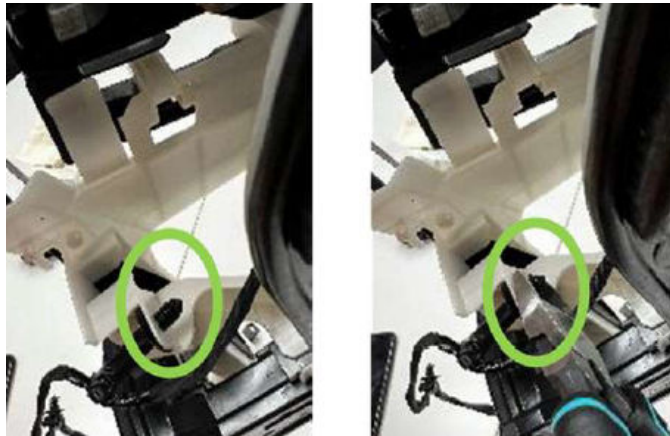

Fig. 7
9. Cut the long retention clip to remove the clip Fig. 7.